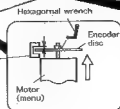
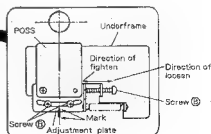
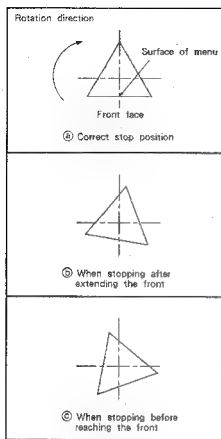

Fig. 7-2
Fig. 7-3
Fig. 7-4
- Loosen screw ③ which holds the encoder disc using a hexagonal wrench.
- Loosen screw ④ which holds the adjustment plate.
- (1) Set the gap between the encoder disc and photo interrupter of the motor (menu) to 1.2 mm. (Fig. 7-2)
- (2) Fix the screw of the encoder disc by tightening with a hex wrench.
- (3) Turn screw ⑤ so that the carved mark on the adjustment plate aligns with the underframe. Then temporarily tighten screw ⑥.
- (4) Push the ROTATE MENU key on the front panel of the main unit so that menu rotates. Then, perform the following adjustments depending on the condition. (Fig. 7-3)
- Loosen screw ④, then tighten screw ⑤ turning it clockwise.
- Loosen screw ④ and turn screw ⑤ counterclockwise to loosen it.
- (5) Turn the menu again and firmly tighten screw ④ when the menu stops directing its surfaces to the front. (Fig. 7-4 ②)
- (6) Finally, turn the menu and check that the menu stops directing all of its three surfaces to the front at every 120° rotation.